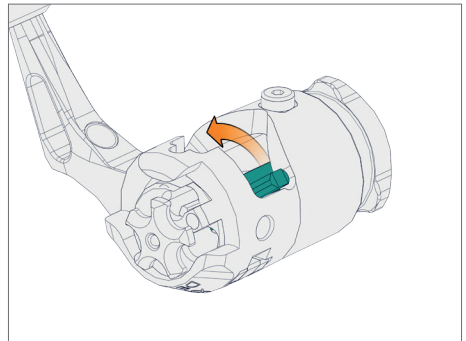

Fig. 9
- Press the firing pin into the center to release the firing pin spring (Fig. 9).